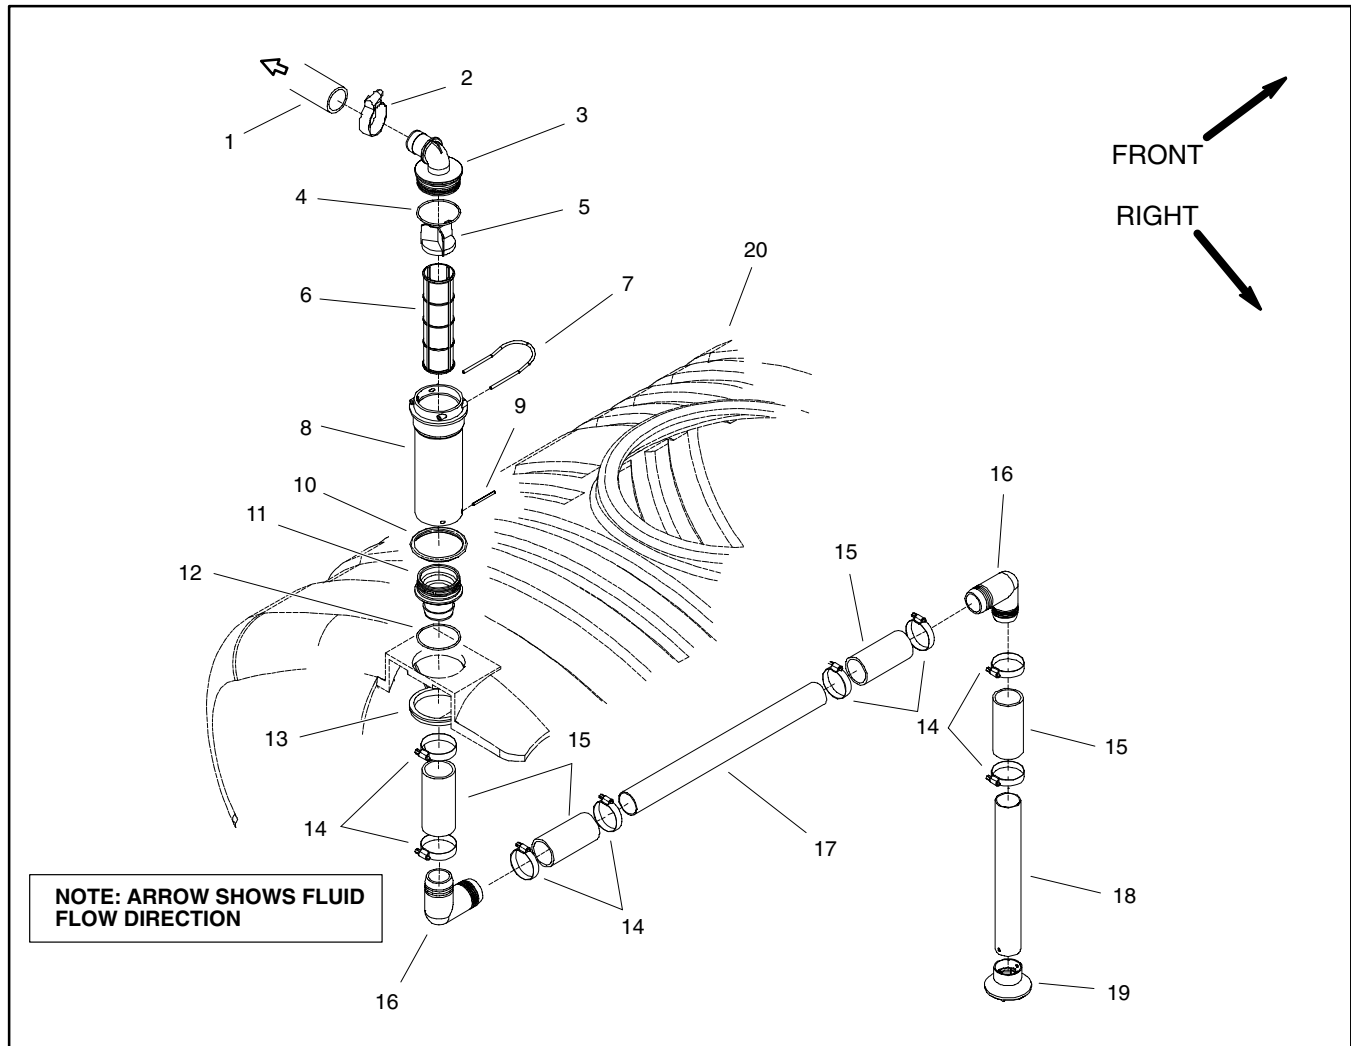

Figure 30
Removal (Fig. 30)
Assembly (Fig. 30)
1. Assemble and install suction tube assembly using Figure 30 as a guide. Replace all removed o-rings and gaskets.